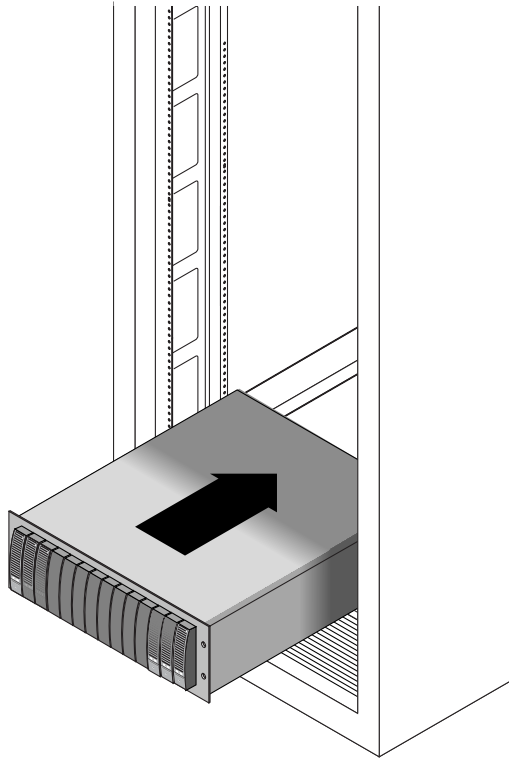

FIGURE 2-15 Sliding the Enclosure Into the Cabinet
3. Carefully slide the enclosure into the cabinet until the front flanges of the enclosure touch the vertical face of the cabinet (FIGURE 2-15).